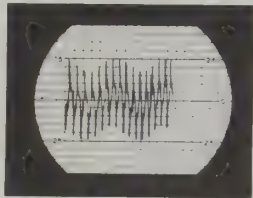

Figure 3.
- (2) Adjust the 1000 cps input signal to the transmitter audio input to 1 volt.
- (3) With this input signal level, adjust the IDC control on the transmitter to provide a 10-square (maximum limit) peak-to-peak recovered signal on the oscilloscope. This is equivalent to  $\pm 5$  kc deviation (preceding the tripler; see figure 3) or  $\pm 15$  kc deviation of the actual carrier.